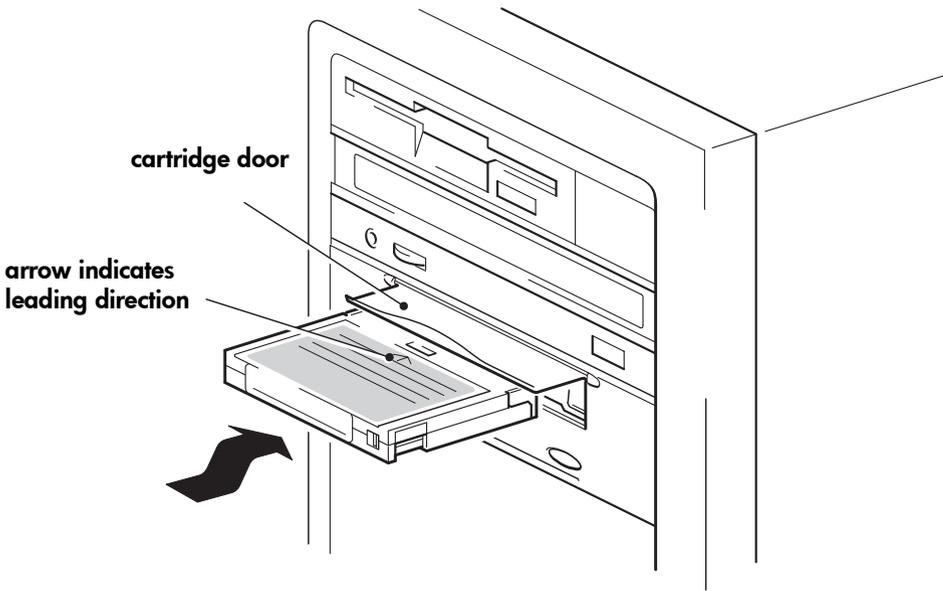

Figure 10a: loading a cartridge
- 1 Lift the cartridge door on the front of the tape drive and insert the cartridge into the slot in front of the drive with the white arrow uppermost and facing the drive door. Apply gentle pressure until the drive takes the cartridge and loads it. (See figure 10a.)